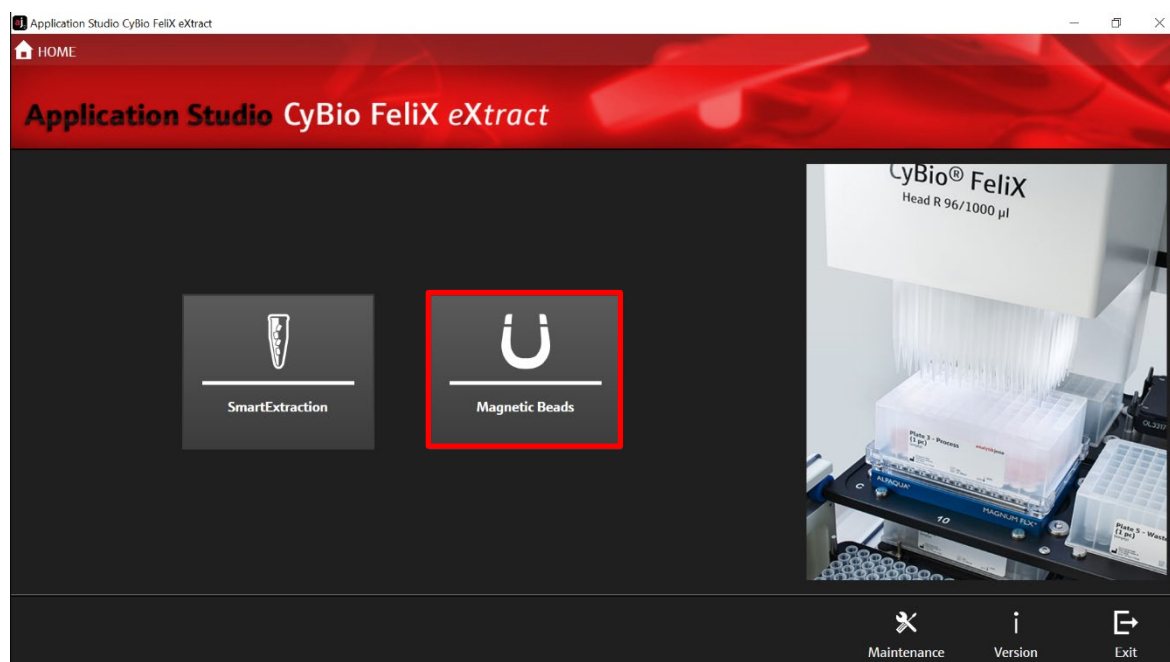

Figure 11: Screen for selecting a Magnetic Beads protocol.
4. Select "Magnetic Beads" (→ see Figure 11).